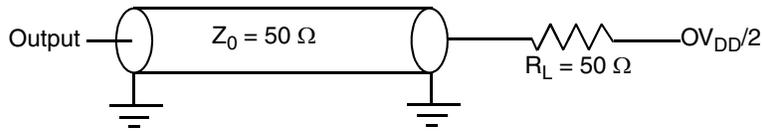

Figure 29. AC Test Load for the JTAG Interface
1. All outputs are measured from the midpoint voltage of the falling/rising edge of t_{TCLK} to the midpoint of the signal in question. The output timings are measured at the pins. All output timings assume a purely resistive 50-Ω load (see Figure 29). Time-of-flight delays must be added for trace lengths, vias, and connectors in the system.
2. The symbols used for timing specifications herein follow the pattern of $t_{(first\ two\ letters\ of\ functional\ block)(signal)(state)(reference)(state)}$ for inputs and $t_{(first\ two\ letters\ of\ functional\ block)(reference)(state)(signal)(state)}$ for outputs. For example, t_{JTDVKH} symbolizes JTAG device timing (JT) with respect to the time data input signals (D) reaching the valid state (V) relative to the t_{JTG} clock reference (K) going to the high (H) state or setup time. Also, t_{JTDXKH} symbolizes JTAG timing (JT) with respect to the time data input signals (D) went invalid (X) relative to the t_{JTG} clock reference (K) going to the high (H) state. Note that, in general, the clock reference symbol representation is based on three letters representing the clock of a particular functional. For rise and fall times, the latter convention is used with the appropriate letter: R (rise) or F (fall).
Figure 29 provides the AC test load for TDO and the boundary-scan outputs.
Figure 29 provides the AC test load for the I²C.